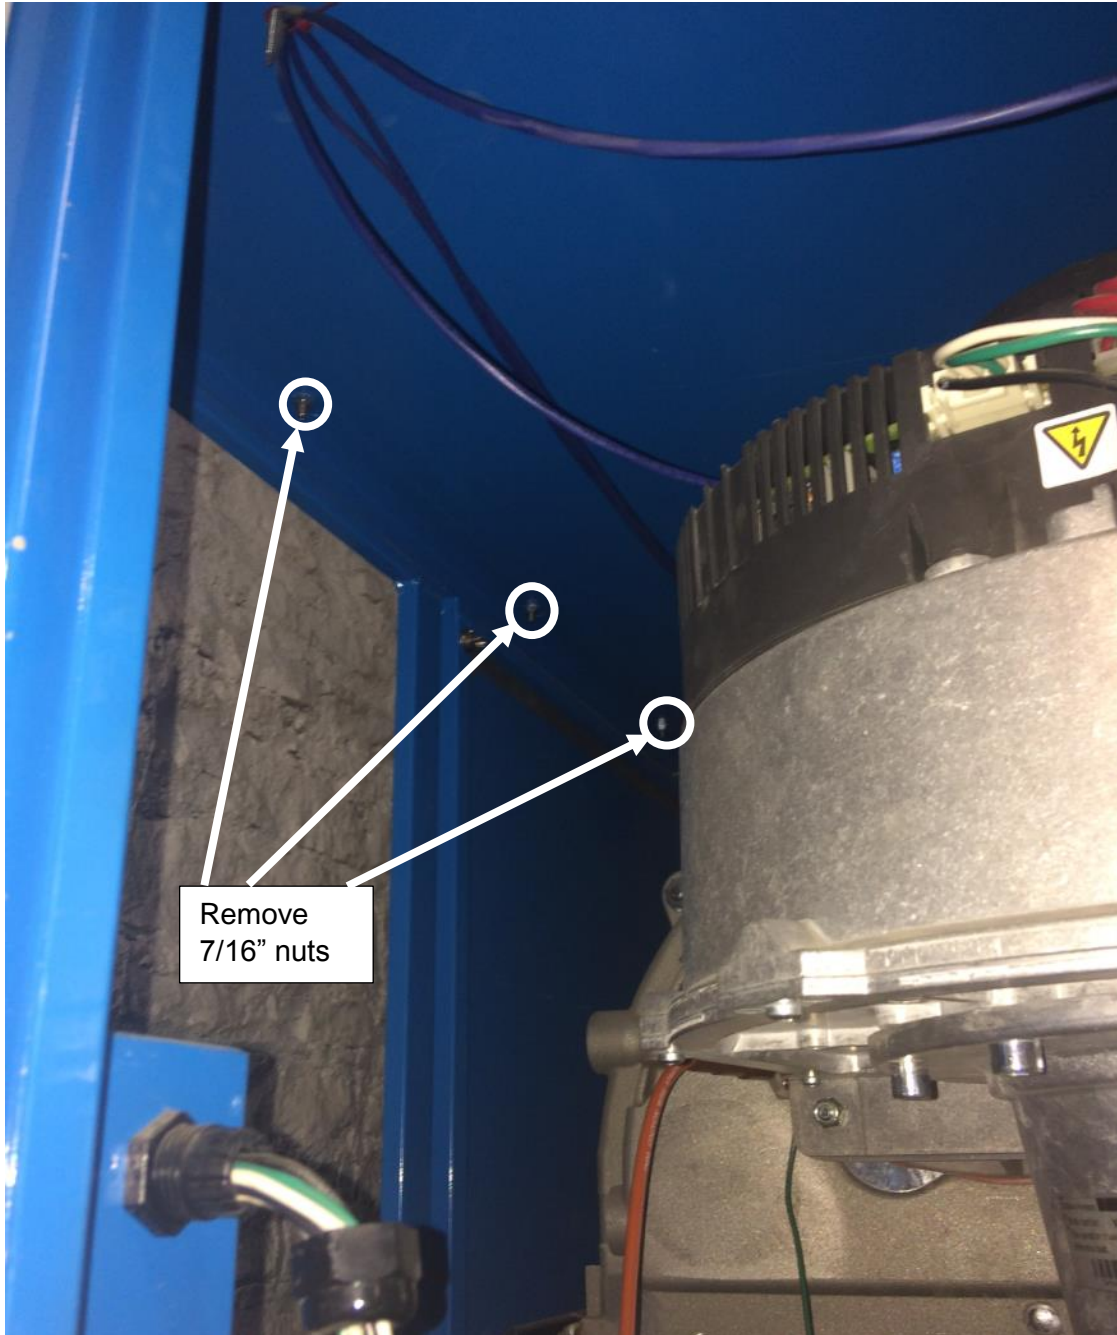

Figure 1
4. Remove 7/16" nuts as required that hold top panel on as shown in Figure 1. Top panel will need to be lifted at least 2" in front in order to remove front panel.